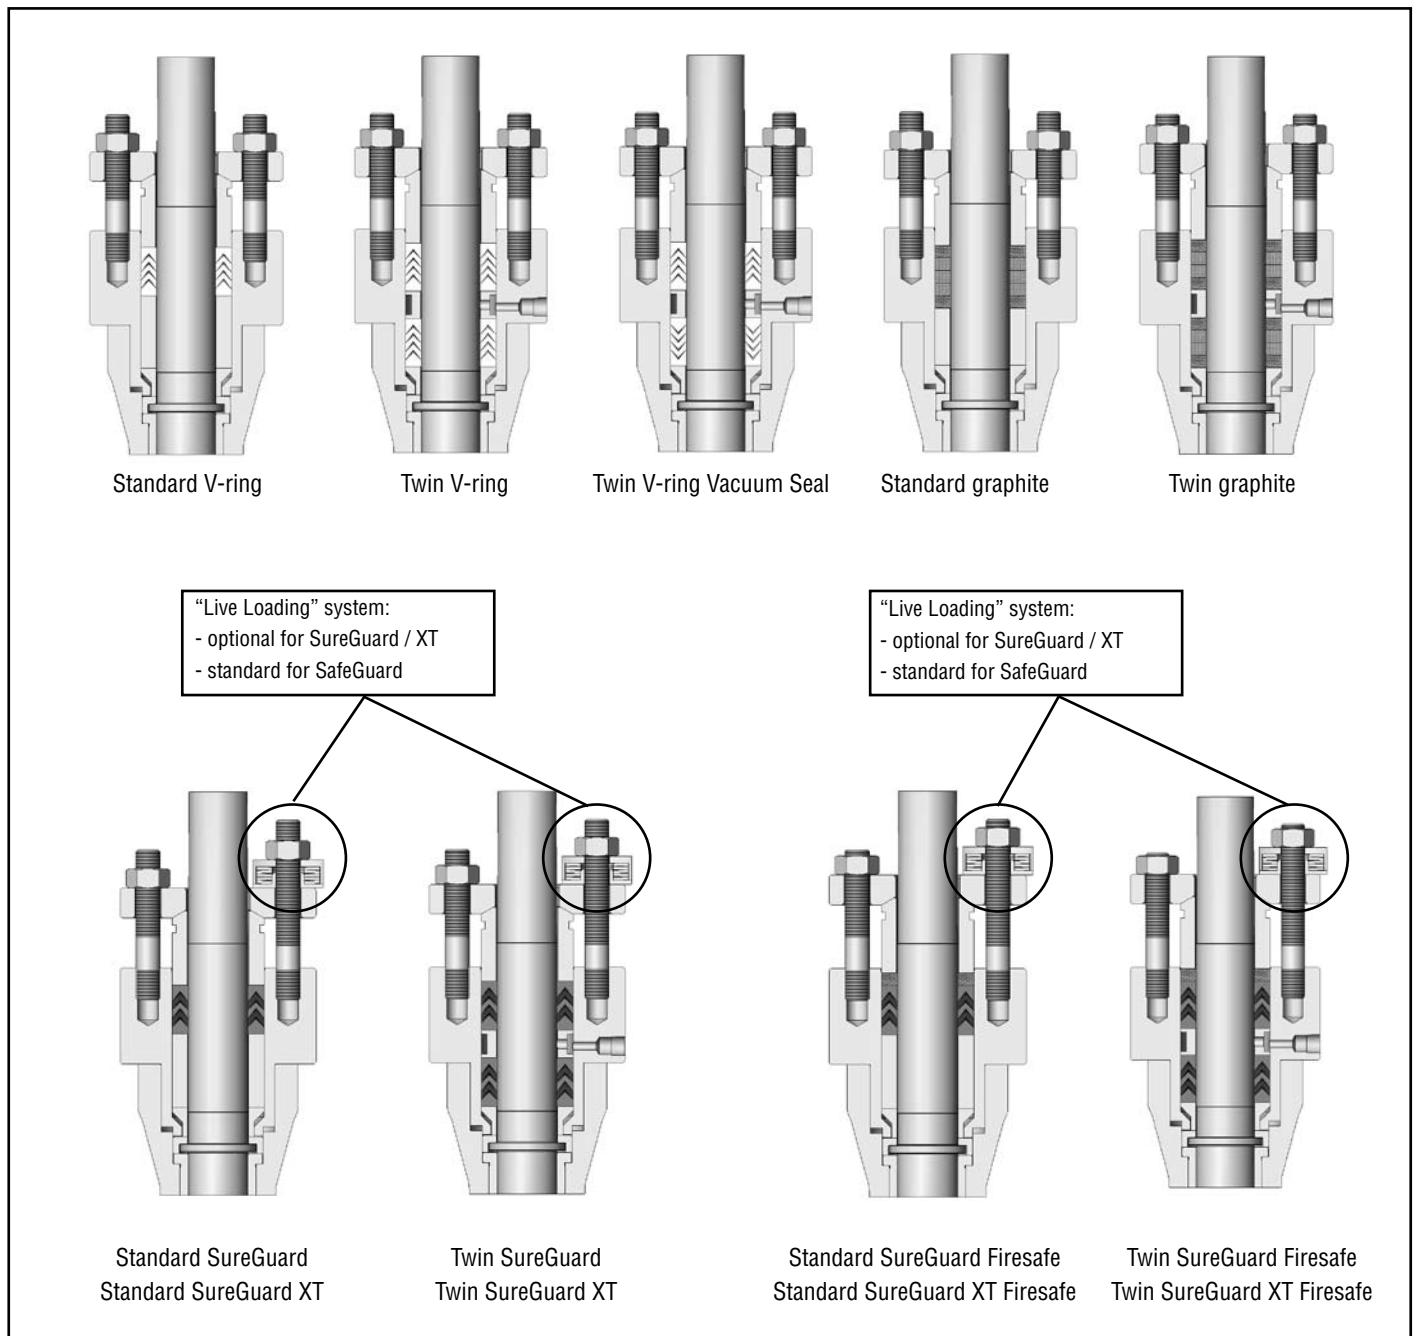

Figure 3: Packing Configurations
7.11 Place the packing stop (item 99) into the bonnet, then install the packing spacer (item 93) and packing as shown in figure 3.